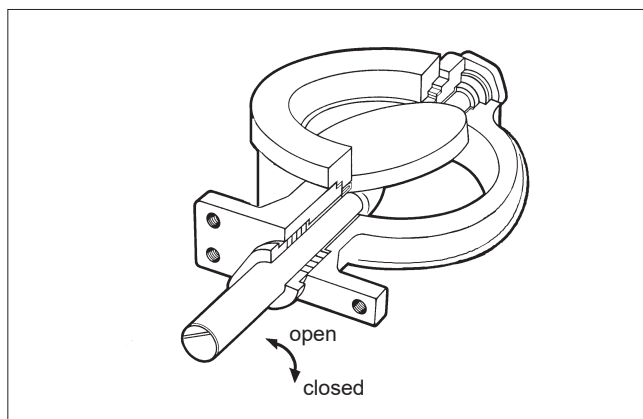

Fig. 11 Open and closed positions of the valve
The marking line parallel to the disc on the valve shaft head shows roughly the closed position of the disc (see Fig. 11).
- Check the position between the seat ring and the disc. The valve closes clockwise (see Fig. 11).
- Press the shafts into the disc drillings. Align the pin holes. The shaft (11) position against the disc must be according to Fig. 11.